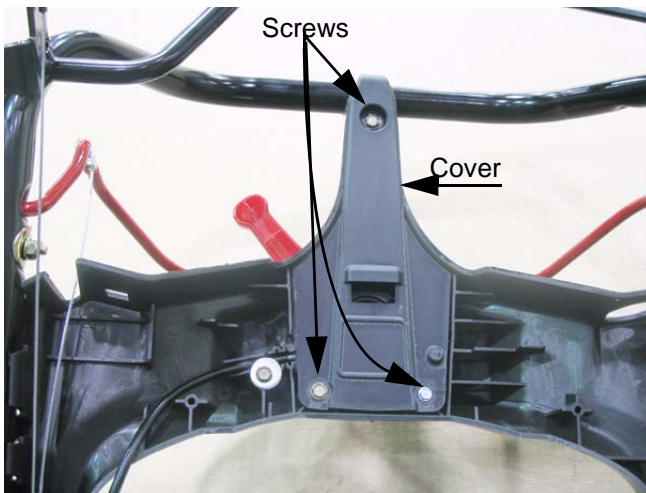

Figure 5.8
5. Remove the three screws holding the cover to the bottom of the control panel using a 1/4" wrench or driver. Pull-down the cover to remove it. See Figure 5.8.